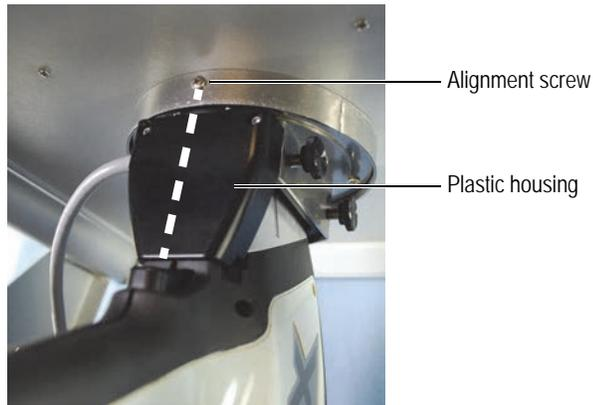

Figure G-14 The analyzer-adaptor assembly installed on the workstation
6. The probe-adaptor plastic housing must be centered with the locking-fixture alignment screw (see Figure G-14 on page 162).